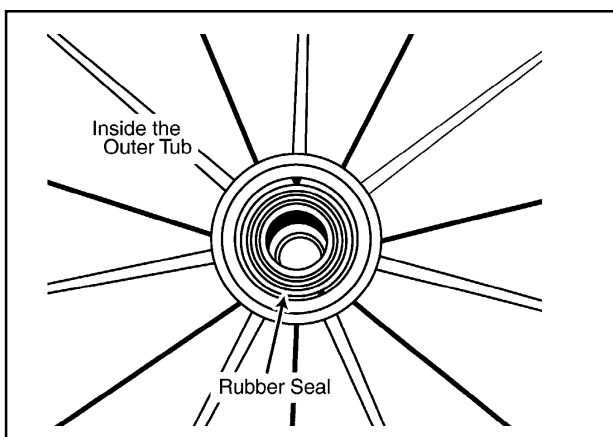

Figure 7-9
4. Reach inside the outer tub bearing area and remove the rubber seal. Discard both the steel seal washer and the rubber seal (*Figure 7-9*).